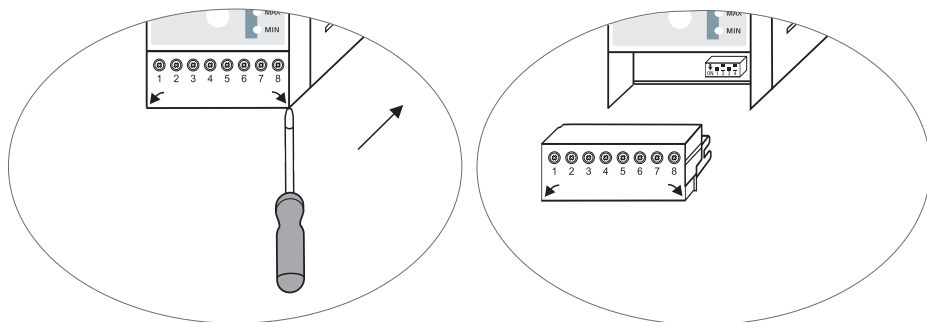

Fig. 7
- Detach the upper and lower terminal strips. **Fig. 7**